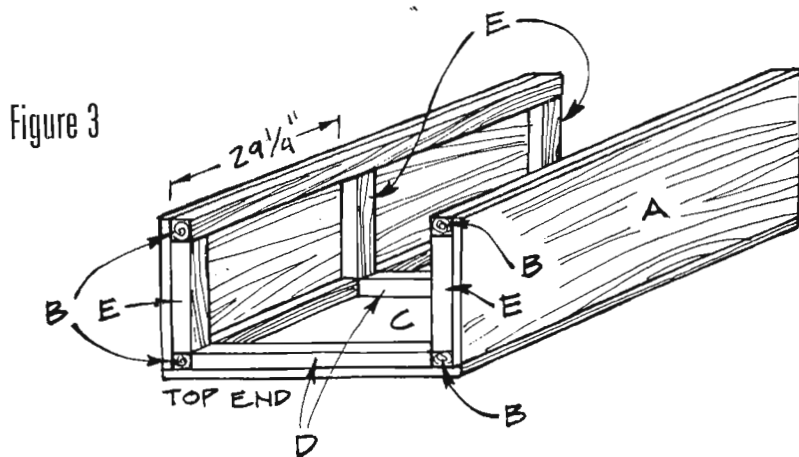

Figure 4
8. Attach the remaining side horizontal support (E) flush with the bottom exposed edge of the side (A).
9. Repeat steps 5 through 8 to cut and attach three more side horizontal supports (E) to the remaining side (A).
10. Cut three front horizontal supports (F) from 2 x 2 pine, each 43-1/2 inches long.
11. Attach one front horizontal support (F), between the inner vertical supports, at the very top of the sides (A). Use glue and 3-1/2-inch-long screws, screwing through the side (A), through the inner vertical supports (B), and into the end of the front horizontal support (F). See *Figure 4*.
12. Attach the second front horizontal support (F), between the inner vertical supports (B), at the very bottom of the sides (A).
13. Measure 29-1/4 inches from the top of the armoire sides, and attach the remaining front horizontal support (F) between the inner vertical supports (B). Again use glue and 3-1/2-inch long screws.